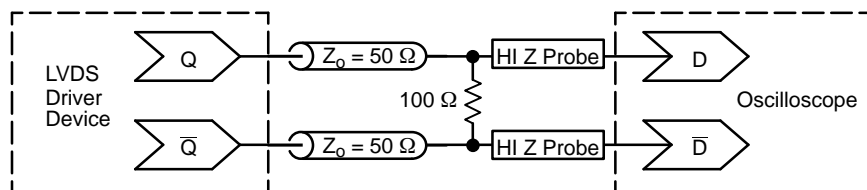

Figure 20. Typical LVDS Termination for Output Driver and Device Evaluation
- LVDS outputs require 100 Ω receiver termination resistor between differential pair. See Figure 20.
12. Measured by forcing $V_{INPPmin}$ with 50% duty cycle clock source and $V_{CC} - 1400\text{ mV}$ offset. All loading with an external $R_L = 100\ \Omega$. Input edge rates 150 ps (20%–80%). See Figure 20.